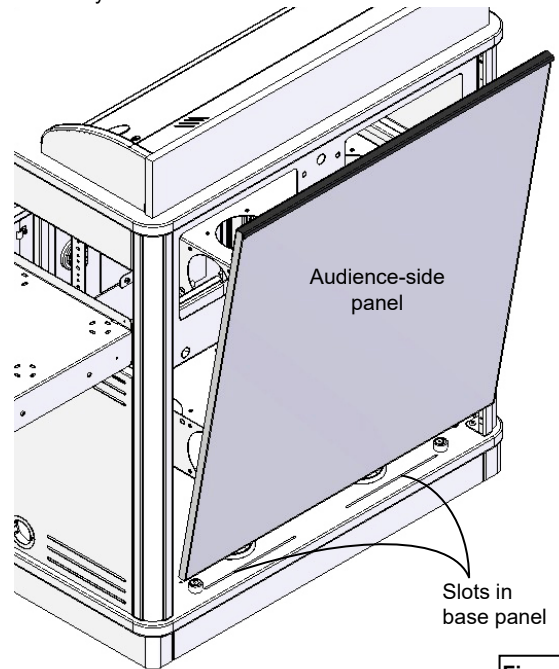

Figure 1.2
3. Carefully lift the panel out. **Figure 1.2.**